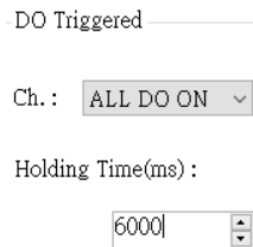

Figure 6.10.29
- J. Select the setting for DO when triggering the alarm, Ch select “ALL DO ON” to turn on DO0 and DO1, and Holding Time (ms) to select “6000” ms to let DO turn on after 6 seconds, as shown in Figure 6.10.29